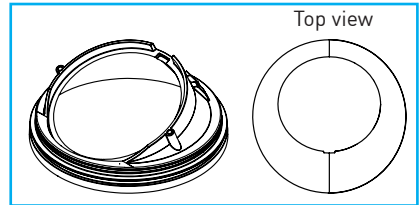
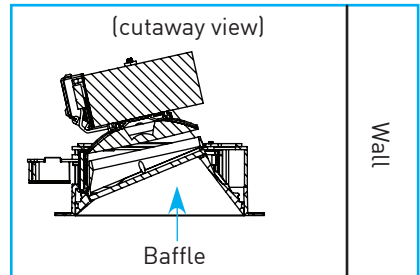

Fig.22
Fig.23
Wallwash Fittings: Baffle "Fig.22" requires alignment with light source. To achieve proper wallwashing, ensure the baffle and fitting are oriented to direct light toward the desired wall "Fig.23".
- Grasp baffle using soft gloves or with clean soft cloth and remove by pulling down or inserting small flat head screwdriver to wallwash baffles and carefully prying down *"Fig.22"*.